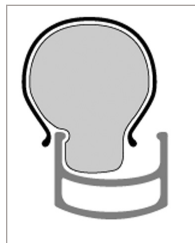

FIGURE 3.43
6. Push the tire and tube over so the tube is inside the rim (Figure 3.43).